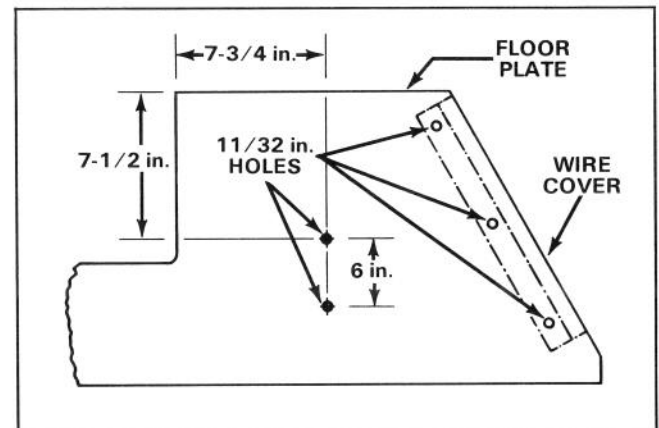

Figure 2
1. Measure $7-3/4$ in. away from the floor plate edge adjoining the right side of the steering tower and scribe a line parallel to the side of the steering cover (Fig. 2).
2. From the front edge of the floor plate, measure $7-1/2$ in. rearward on the $7-3/4$ in. mark and center punch the location (Fig. 2).
3. Measure 6 in. further rearward from the original punch mark and center punch again (Fig. 2).
6. Insert $5/16 \times 5/8$ in. flange head screws (2) into horn mounting holes in floorboard, mount horn bracket onto screws and secure to bottom of the floorboard with flange locknuts.
1. Lay the wire cover on the floor plate and butt it against the right side of the main frame (Fig. 2).
- Center punch each mounting hole and drill an $11/32$ in. hole at each location (Fig. 2).